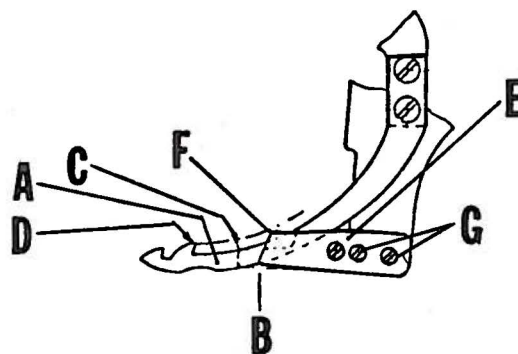

Fig. 20
To avoid pinching the needle threads as the lower knife (A, Fig. 20) swings out, the edge of the lower knife and the plate spring (B) must be in alignment as shown at point (C). Tip (D) of the cutting edge of the lower knife must be overlapped by the corner of the upper knife (E) at point (F). Adjustment can be made by loosening screws (G), reposition upper knife and plate spring as required. Retighten screws.